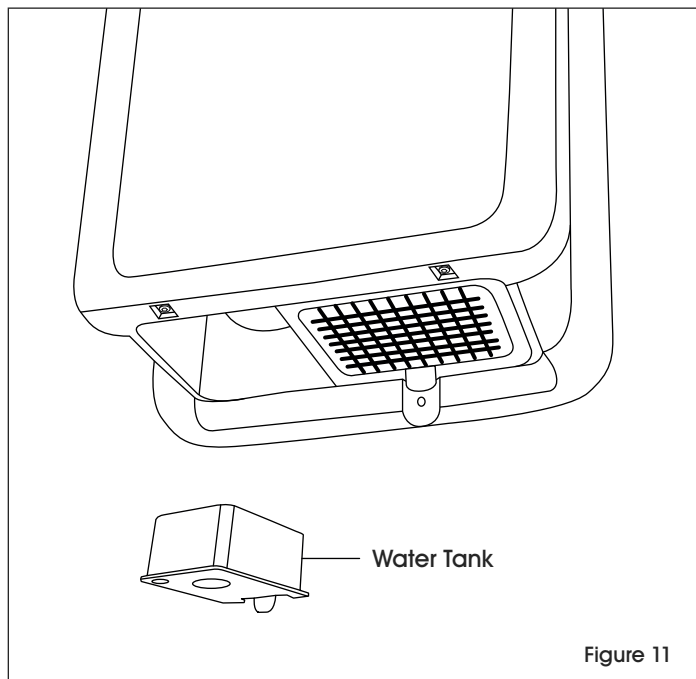

Figure 11
2. Pull tab in slightly and pull tank down. Empty and clean water tank. (See Figure 11)